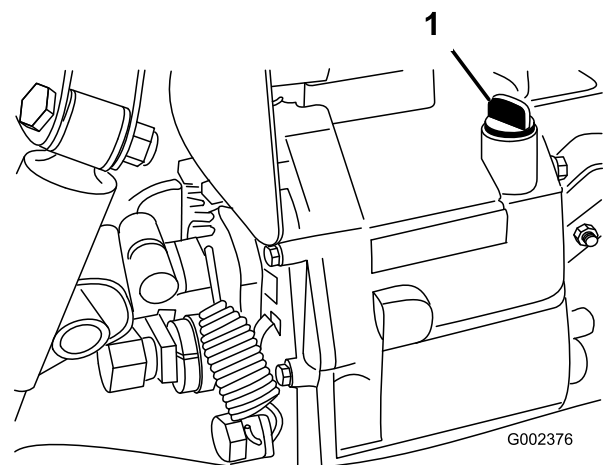

Figure 15
2. Clean the area around the dipstick (Figure 15).